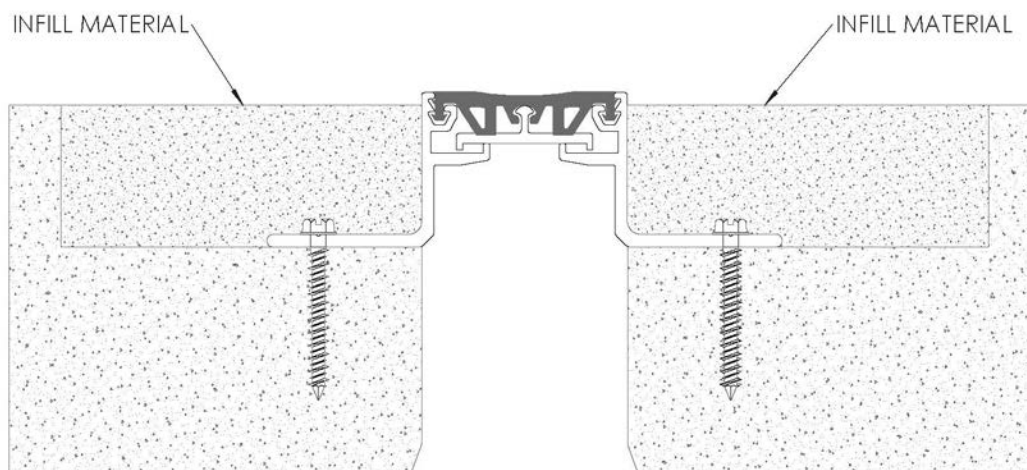

FIGURE 5
5. Protect the exposed surface of the expansion joint, then using an appropriate infill material (by others), fill in the blockout level with the surrounding floor. **See Figure 5**